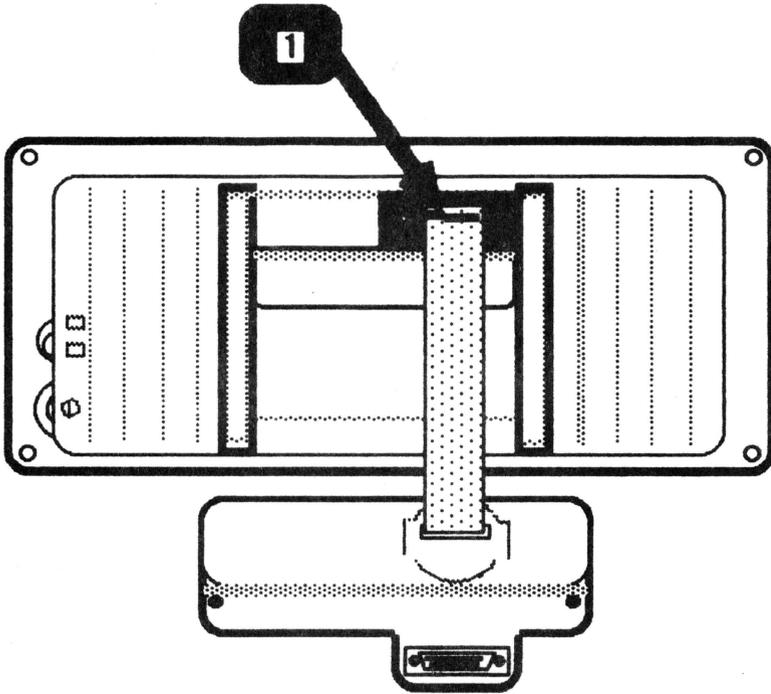

FIGURE 15
6. Orient the connector box and the back of the flat panel case as shown in Figure 15.
7. Slide the other end of the ribbon cable through the opening in the back of the flat panel case. Pull the cable through until the metal clamp on the insulation (white rubber coat) is just inside the opening in the case. (See Figure 15, #1).